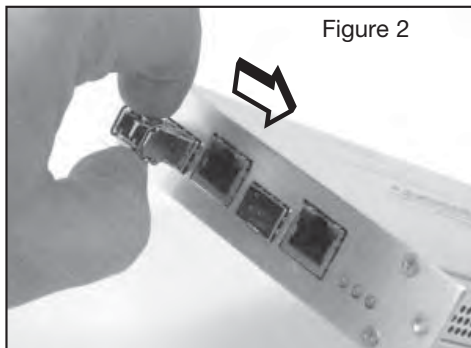

Figure 2
- Step 2** - Line up the SFP sub-module with the port and slide it into the port. (see Figure 2)